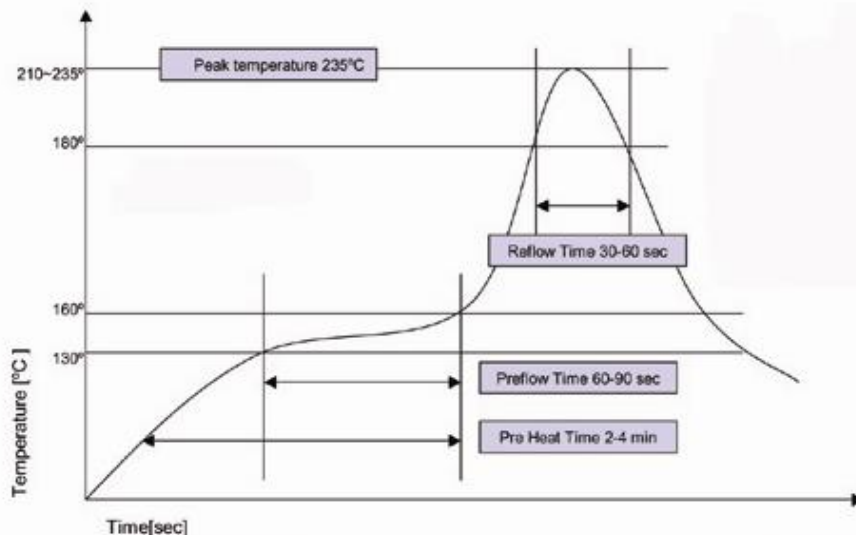

Figure 5 – Low Temperature Solder Reflow Thermal Profile
***Reflow:*** The surface mount coupler is conducive to most of today's conventional reflow methods. A low and high temperature thermal reflow profile are shown in Figures 5 and 6, respectively. Manual soldering of these components can be done with conventional surface mount non-contact hot air soldering tools. Board pre-heating is highly recommended for these selective hot air soldering methods. Manual soldering with conventional irons should be avoided.